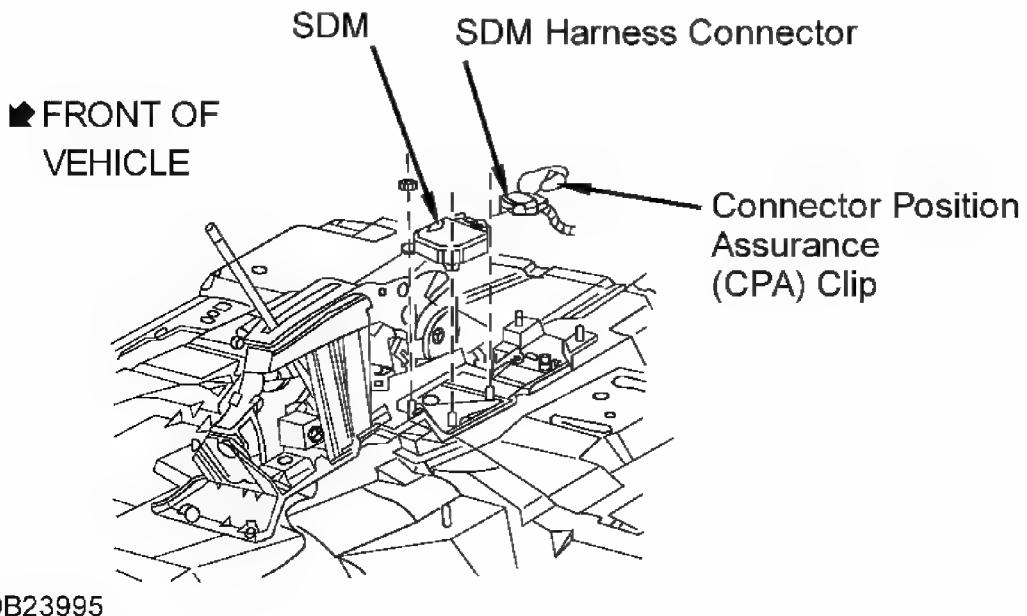

Fig. 6: Identifying Sensing & Diagnostic Module (SDM)
2. Remove driver seat, seat belt, carpet retaining sill trim molding and floor console (if equipped). Make an "X" shaped incision in carpet directly over SDM. See **Fig. 6** . Fold